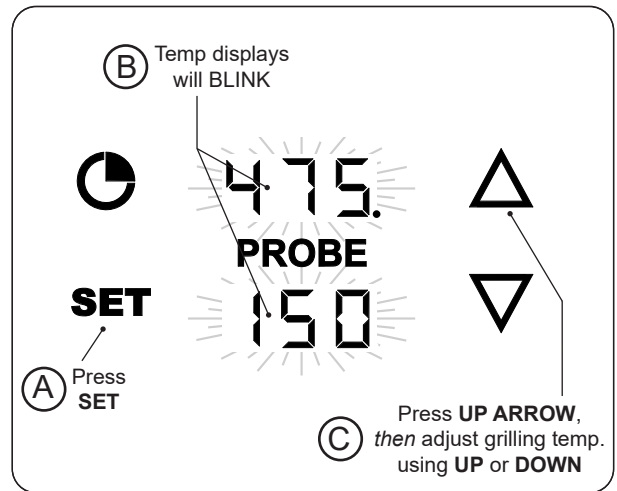

Fig. 31-1 Set grilling temp.
1. With the thermometer/thermostat **on**, press the **SET** button once. The grilling and probe displays will blink. (While blinking, either area can be selected to enter their settings.) See Fig. 31-1, A and B.
2. Press the **UP ARROW** to select the grilling temp settings, *then* use the up or down arrows to set the desired temp. (Fig. 31-1, C).